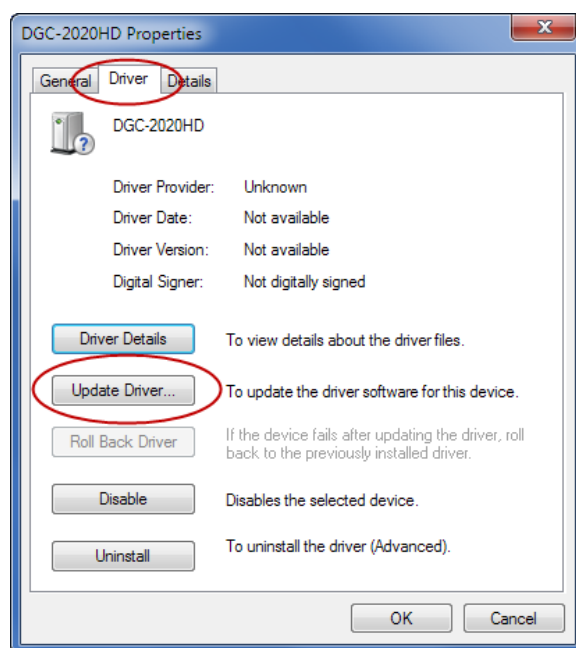

Figure 230. DGC-2020HD Properties
Step 3. In the Properties windows, select the Driver tab and click Update Driver. See Figure 230.